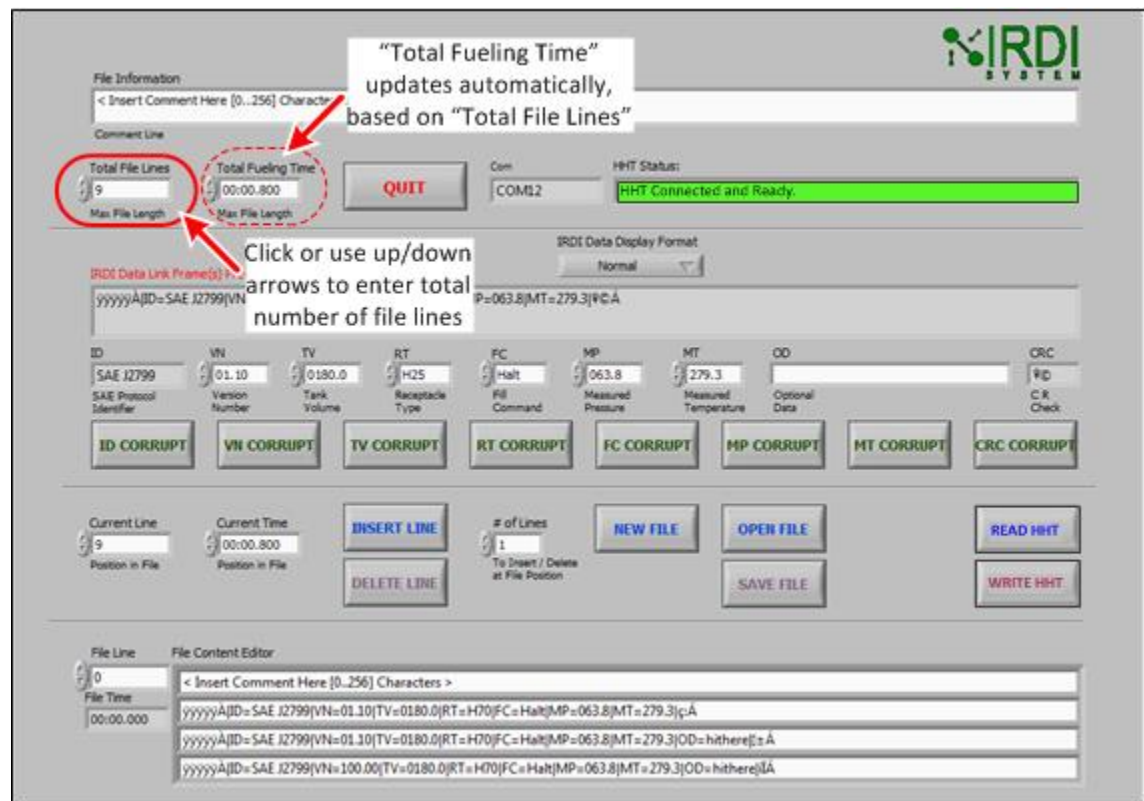

FIGURE 5-12 HHT TEST PATTERN SOFTWARE – TOTAL FILE LINES
STEP 1	Click in the “Total File Lines” window at the top left of the screen, and enter the total number of file lines, or use the “up/down” arrows beside this field to set the numbe of files lines – see Figure 5-12 above.